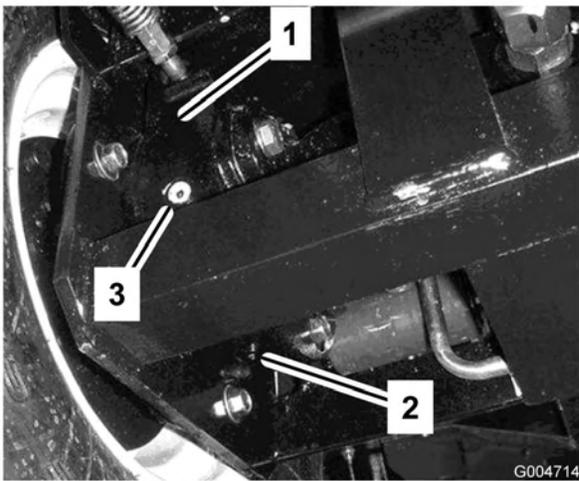

Figure 59
4. Place a drain pan under the brake housing on the other side of the wheel (Figure 59).